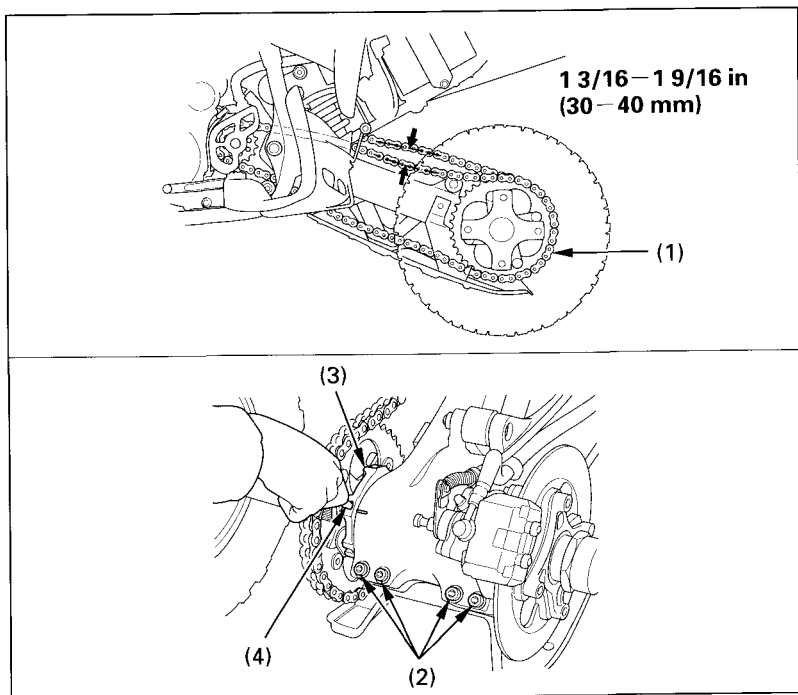

Fig. 4-15
To adjust slack, use an Allen wrench (4) to loosen the rear axle holder lock bolts (2), (Fig. 4-15). Turn the adjuster (3) to decrease or increase chain slack. Retighten the rear axle holder fixing bolts.